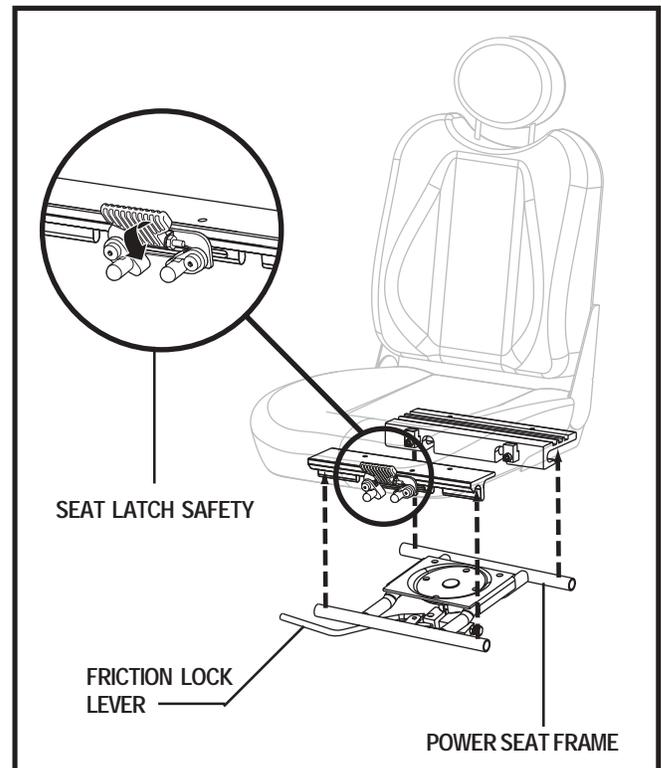

Figure 12. UMS - Power Elevating Seat System
4. Flip the seat latch safety down. See figure 12.